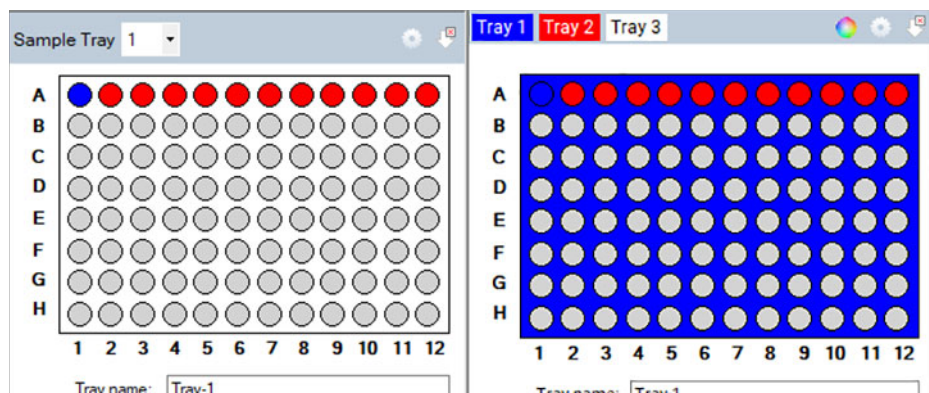

Figure 39 Classic drop-down tray selection (left) or colored tab tray selection (right)
Select the sample tray to be used from either the **Sample Tray** drop-down list or the colored tab tray selection, depending which configuration is set (**Figure 39**).
The configuration can be set by selecting the  icon located in the upper right corner of the window shown in **Figure 39**.
- 2 Choose between the sample tray drop-down list or the colored tab tray selection as shown in **Figure 39**.
- 4 To select a row from the 96-well plate depicted in the sample or sample tray window, left-click once in that row (**Figure 39**). To select a new row left-click on another row.
- 5 To clear a row selection, select  (**Figure 39**).
The **Tray name** dialog box allows you to input a name for the tray being run (**Figure 39**). Alternatively, select this dialog box and use a bar-code scanner to import sample names for the plate being run (for more information, refer to **Chapter 9**, “Femto Pulse – Sample Name Entry”).